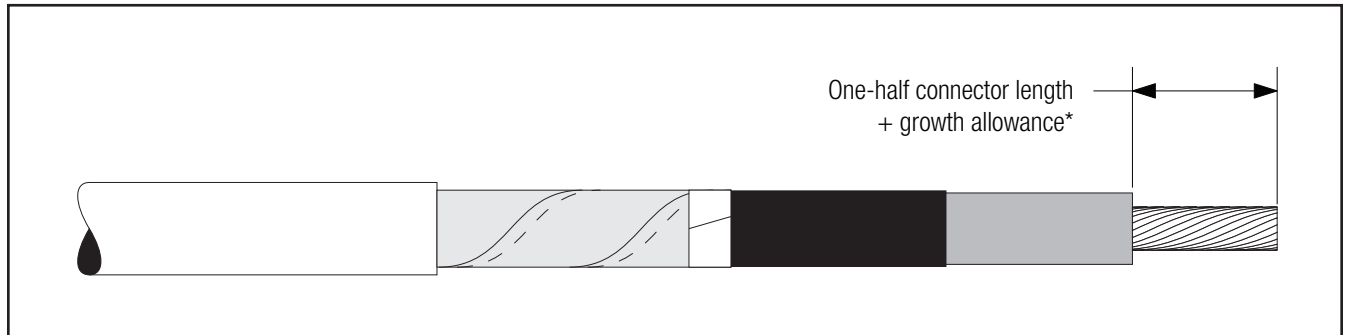

Figure 14
4.3 If using a crimp type connector, remove cable insulation for 1/2 connector length plus an allowance* for increases in connector length due to crimping. Insulation removal length shall not exceed 3 3/4" (95 mm) from conductor end. **Do not install connector now** (Figure 14).